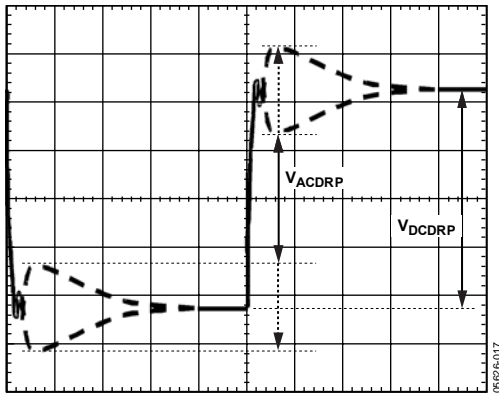

Figure 17. AC Load Line Waveform
14. Measure the output waveform (use dc offset on scope to see the waveform). Try to use a vertical scale of 100 mV/div or finer. This waveform should look similar to Figure 17.
15. Use the horizontal cursors to measure V_{ACDRP} and V_{DCDRP} as shown in Figure 17. Do not measure the undershoot or overshoot that happens immediately after this step.
- $$C_{CS(NEW)} = C_{CS(OLD)} \times \frac{V_{ACDRP}}{V_{DCDRP}} \quad (48)$$